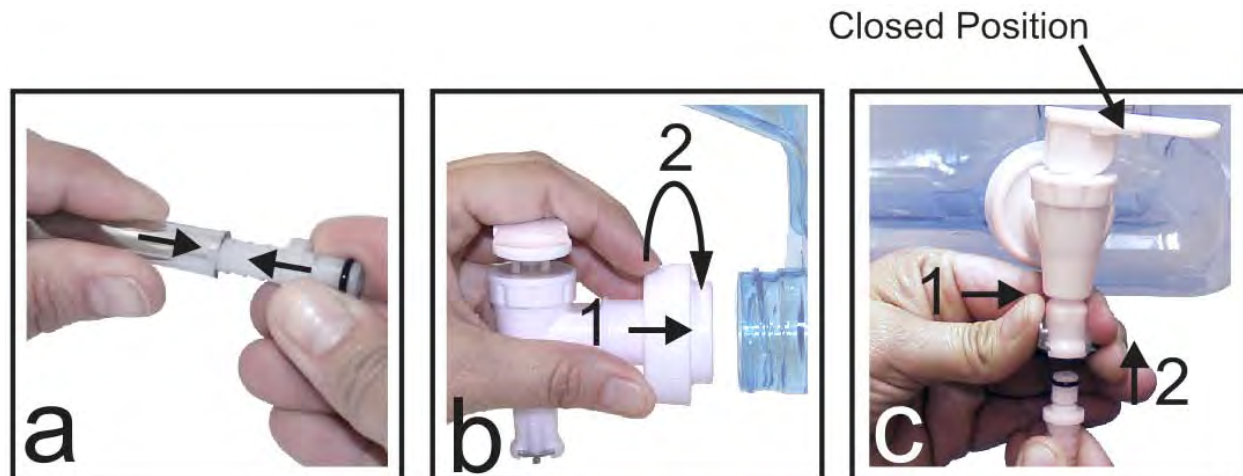
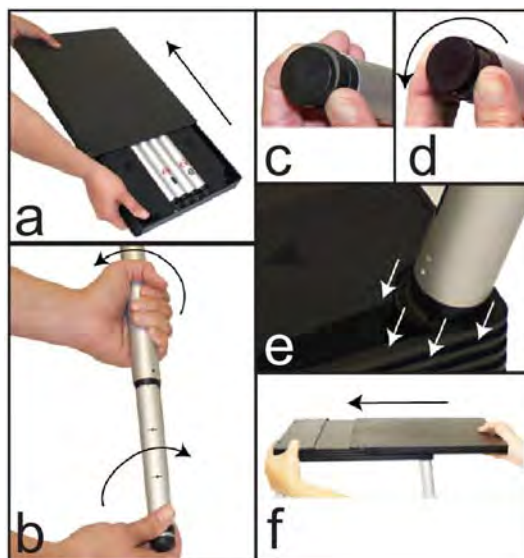

Fig. 8. Reservoir Assembly.
Fig. 9. Assembling Aardvark Table.
Determine input and output of the RU. The RU is completely symmetrical, so it is very important to install the RU right side up. (The Aardvark in the Logo should be “crawling out of the hole”). The RU input tube is towards the Aardvark head in logo (up). The input tube connects the RU to the Reservoir. The RU output tube is towards Aardvark’s tail in the logo (down). The RU output (Fig. 8) connects the RU to the APM. If, for any reason, the Aardvark Regulator logo cannot be clearly seen on the RU, there is a Branded “UP” sign on the top of the RU that can be used for proper orientation.
The Aardvark Permeameter Module is shipped completely assembled and ready to use (Fig. 9 left). The Aardvark Permeameter Module has three major parts: The Head Cap, The Body Tube and The Dispersive End Cap (Fig. 9, right).
On the top of the Head assembly there is a stainless metal U-Bolt (UB) for connecting to the Suspension Line (Measuring Tape) or Quick Link of the Pressure Regulator (Fig. 8). It is used for hanging and lowering the APM in a Borehole. The Quick Connection (QC) provides an easy and secure connection between the Head Assembly and Connecting Tubing (Fig. 9 right).